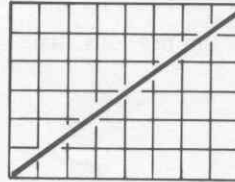
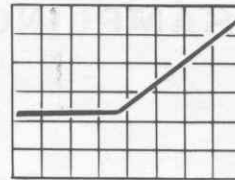

Figure 2-5A
Figure 2-5B
- ( ) With the VERTICAL GAIN control fully clockwise, turn the HORIZONTAL GAIN control until you see a diagonal line as shown in Figure 2-5A. This line may appear as shown in Figures 2-5B through 2-5E. If so, correct the trace to a straight diagonal line by making the adjustment suggested with the appropriate Figure.